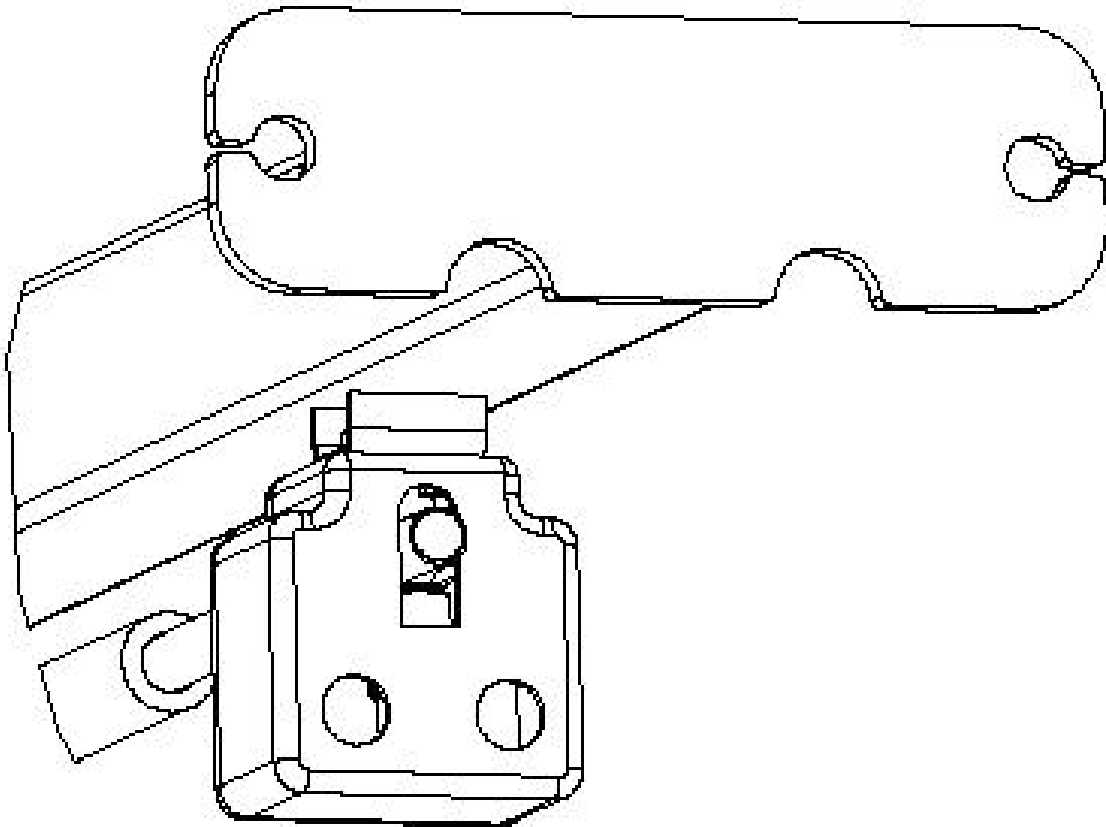

Figure 10
* Using (2) 1/4-20 X 1/2 HHCS and (2) 1/4-20 Flange Lock Nuts attach the overhead switch assembly to the overhead beam as shown in figure 10.